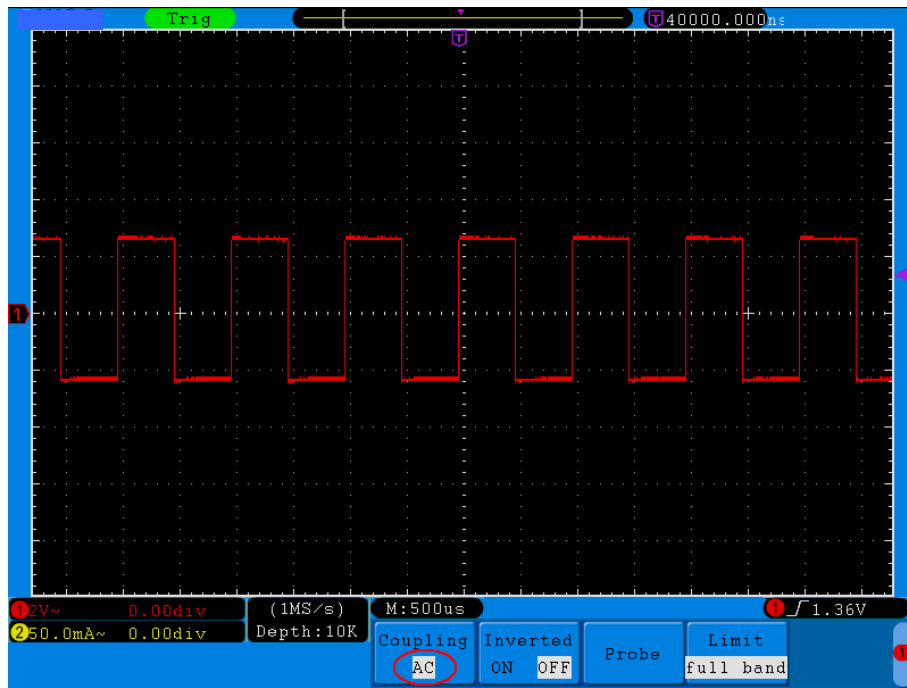

Figure 5-2 AC Coupling Oscilloscope
- (1) Press the **CH1 MENU** button to show the CH1 SETUP menu.
- (2) Press the **H1** button, the Coupling menu will display at the screen.
- (3) Press the **F1** button to select the Coupling item as "**DC**". Both DC and AC components of the signal are passed.
- (4) Then, press **F2** button to select the Coupling item as "**AC**". The direct current component of the signal is blocked. The waveforms are shown as *Figure 5-2*.